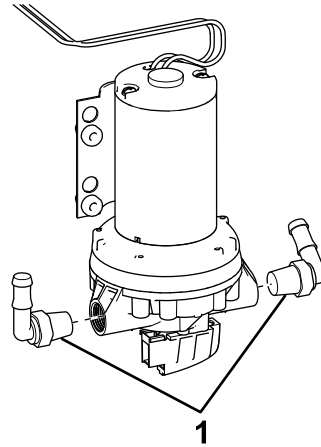

Figure 19
10. Install a 90° hose fitting onto both sides of the pump (Figure 19).